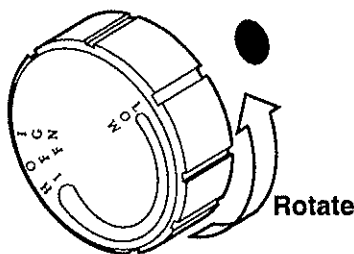

Figure 23: Rotation of Control Knob
10. Turn control knob to any position between LOW and HIGH. The knob position controls the thermostat temperature. (*Refer to Figure 23*)